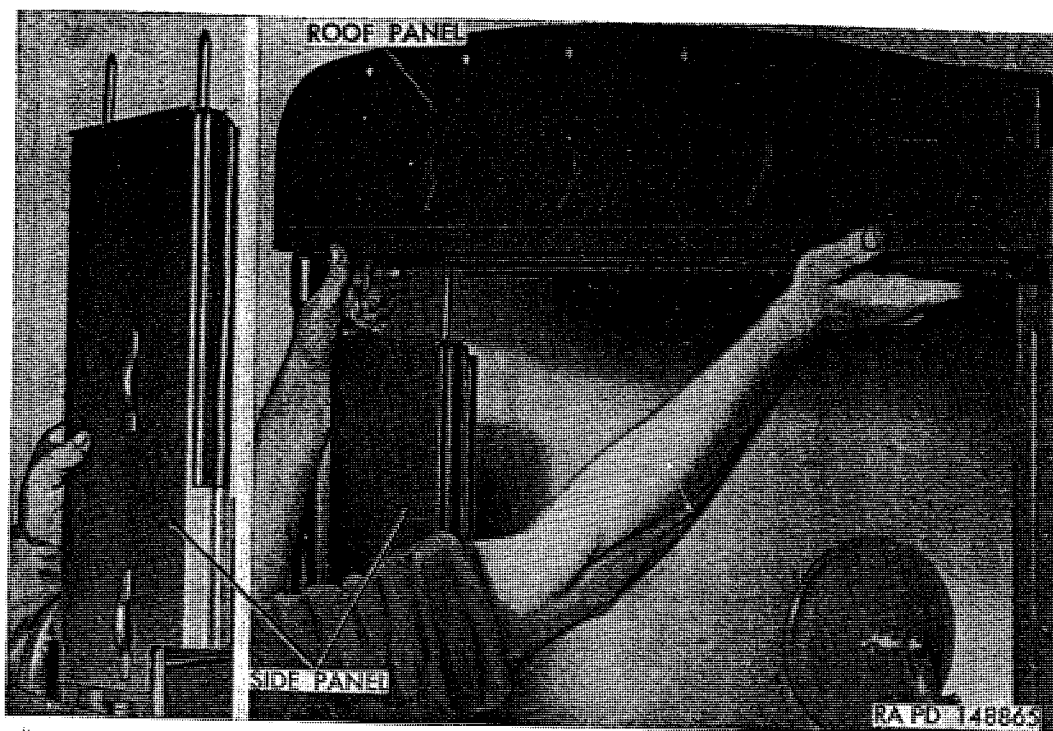

Figure 308. Removing roof and side panels (right side shown).
(3) *Roof paulin rolled and roof bow down.* Roll roof paulin and rear curtain ((1) and (2) above). Push each roof panel straight upward to disengage from windshield and roof bow anchors and from side panel studs (fig. 308). Lift each roof panel straight upward to disengage studs; then remove from cab. Bolt roof panels together and bolt rear quarter panels